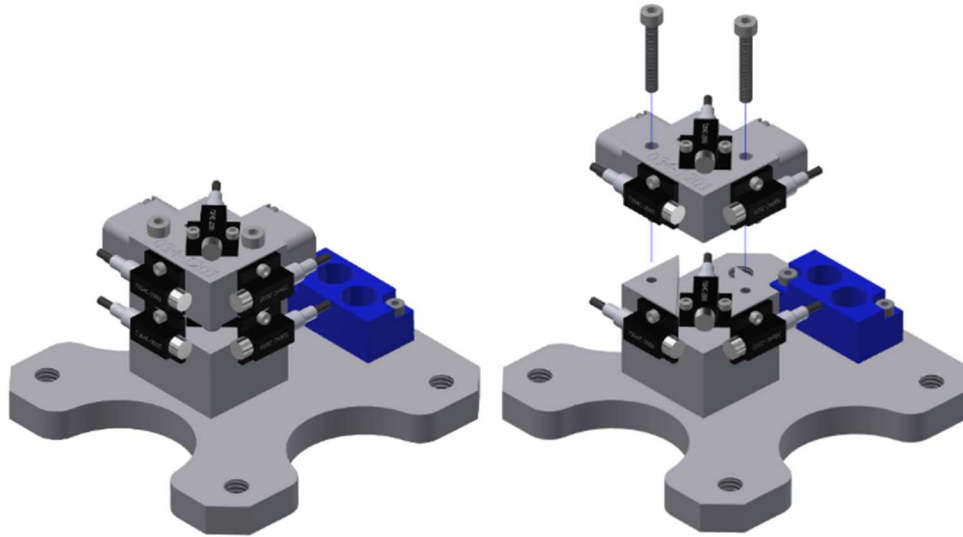

Figure 3-11. Head accel/ARS mount
- 3.2.10 Remove the 6 axis accel/ARS mount from the accel mount by removing two M2.5 X 0.45 X 16 LG. SHCS (Figure 3-11).